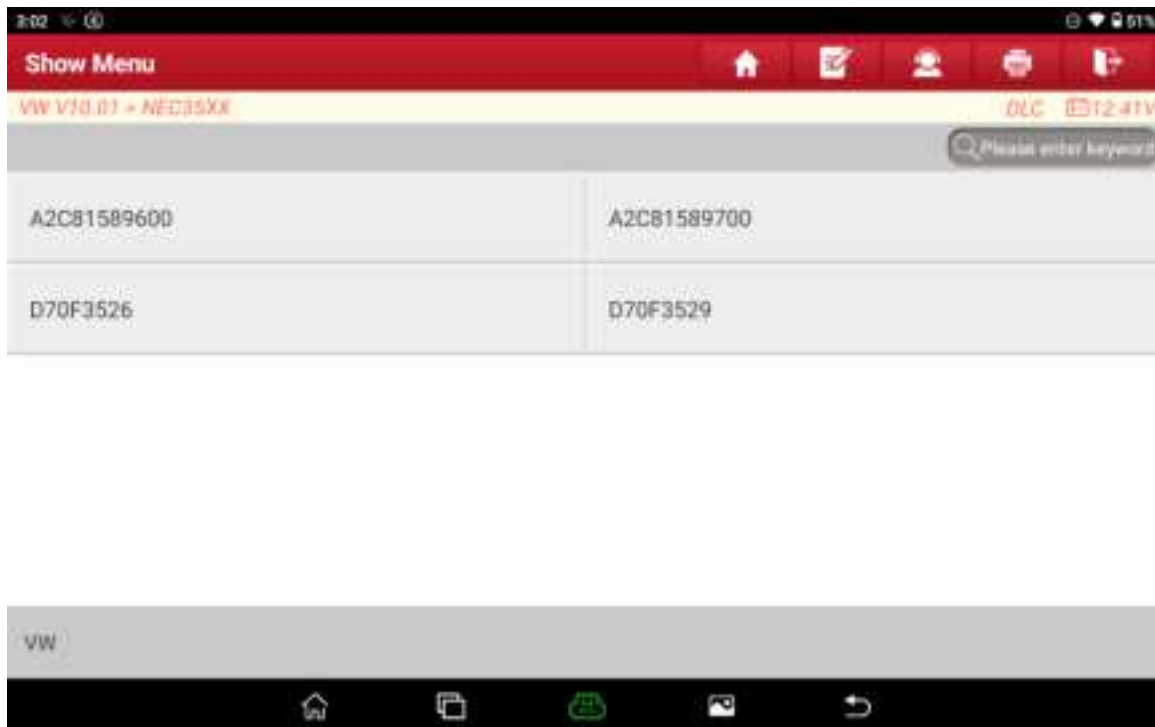

Figure 8
8. Choose [D70F3529], as shown in Figure 8.